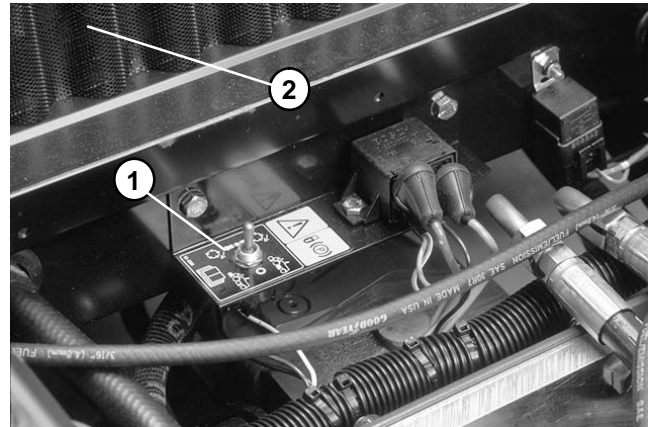

Figure 31
5. Select either the front or rear on the backlap switch (Fig. 31).